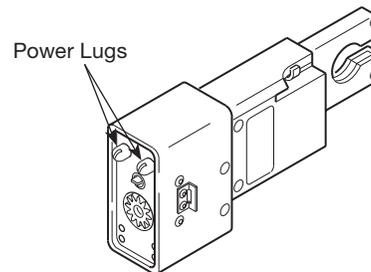

Figure 28 Cleaning the Weld Head Power Lug
4. Clean the two power lugs on the weld head with the provided stainless steel wire brush. See Figure 28.